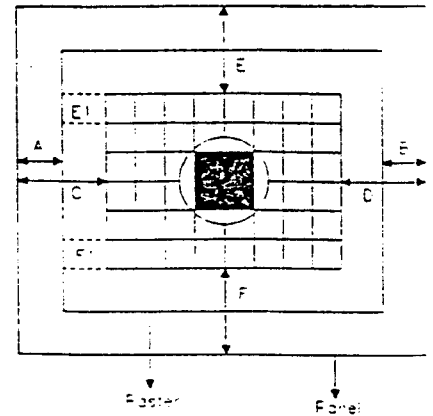

Figure 7
2. Adjust VR04 let A-B =  $0 \pm 1$  mm (See Fig 7) for rater center.
3. Press and rotate the Encoder to adjust Vertical center  $\leq 2$  mm. (See Fig 7,  $|E-F| \leq 2$  mm)
3. Press and rotate the Encoder to adjust Horizontal center  $\leq 2$  mm. (See Fig 7,  $|C-D| \leq 2$  mm)
(10) PINCUSHION ADJUSTMENT